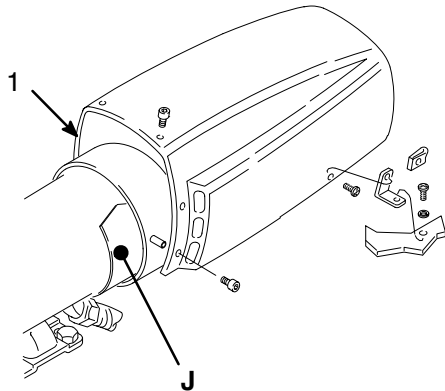

Fig. 11 05210
2. Remove the motor shield (1). Remove the inspection covers (J) and gaskets on each side of the motor. See Fig. 11.